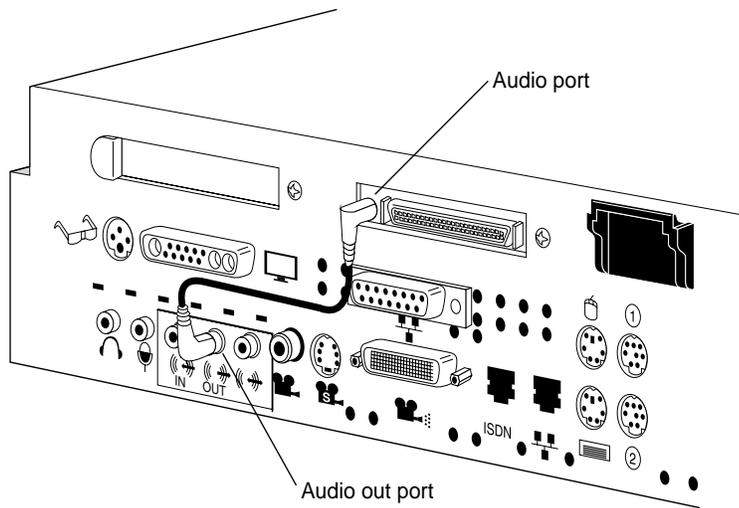

Figure 4-1 Removing the Audio Cable
2. Remove the small, black, audio cable from the rear of the Indy workstation. (See Figure 4-1.)